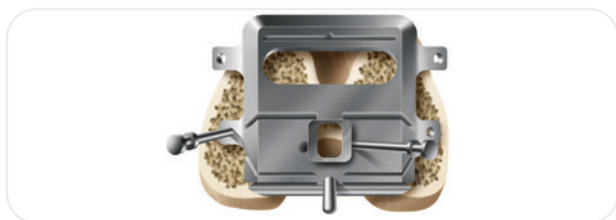

Figure 16
2. Ensure that the cutting block is flush with the resected distal femur. Several holes in the A/P block allow fixation of the block. Place one pin centrally through one of the middle holes just medial or lateral to the quick-connect attachment. For additional stability, a headed pin may be placed through the holes on the medial or lateral side of the block (**Figure 16**).